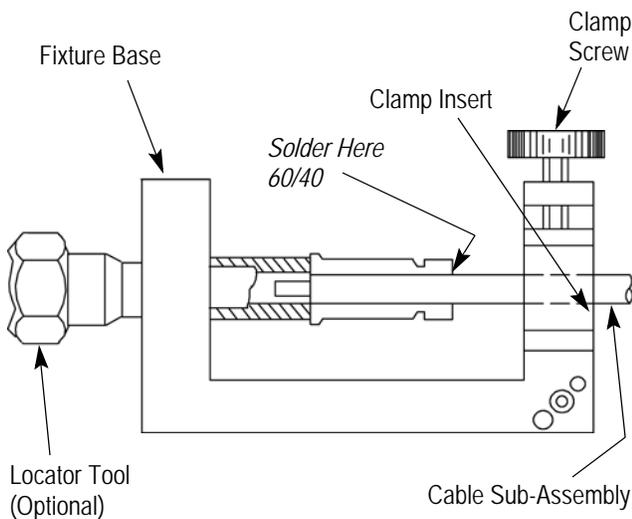

Figure 4
2. Place loose assembly in fixture base as shown in Figure 4. (Slide clamp nut back out of way).